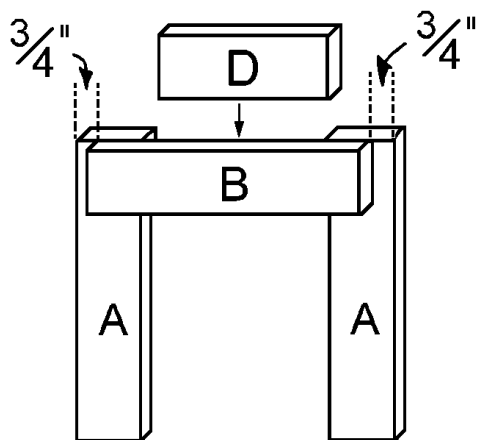

Figure 2
5. The front is shown in *Figure 2*. Assemble two legs (A) and one front/back connector (B), spacing them as shown. Again, the pieces are flush at the top, and there is a 3/4" offset at the sides. Use two screws at each end of the front/back connector (B) to secure the legs (A). Attach the front/back spacer (D) between the legs using three screws driven through the front/back connector (B) into the front/back spacer.